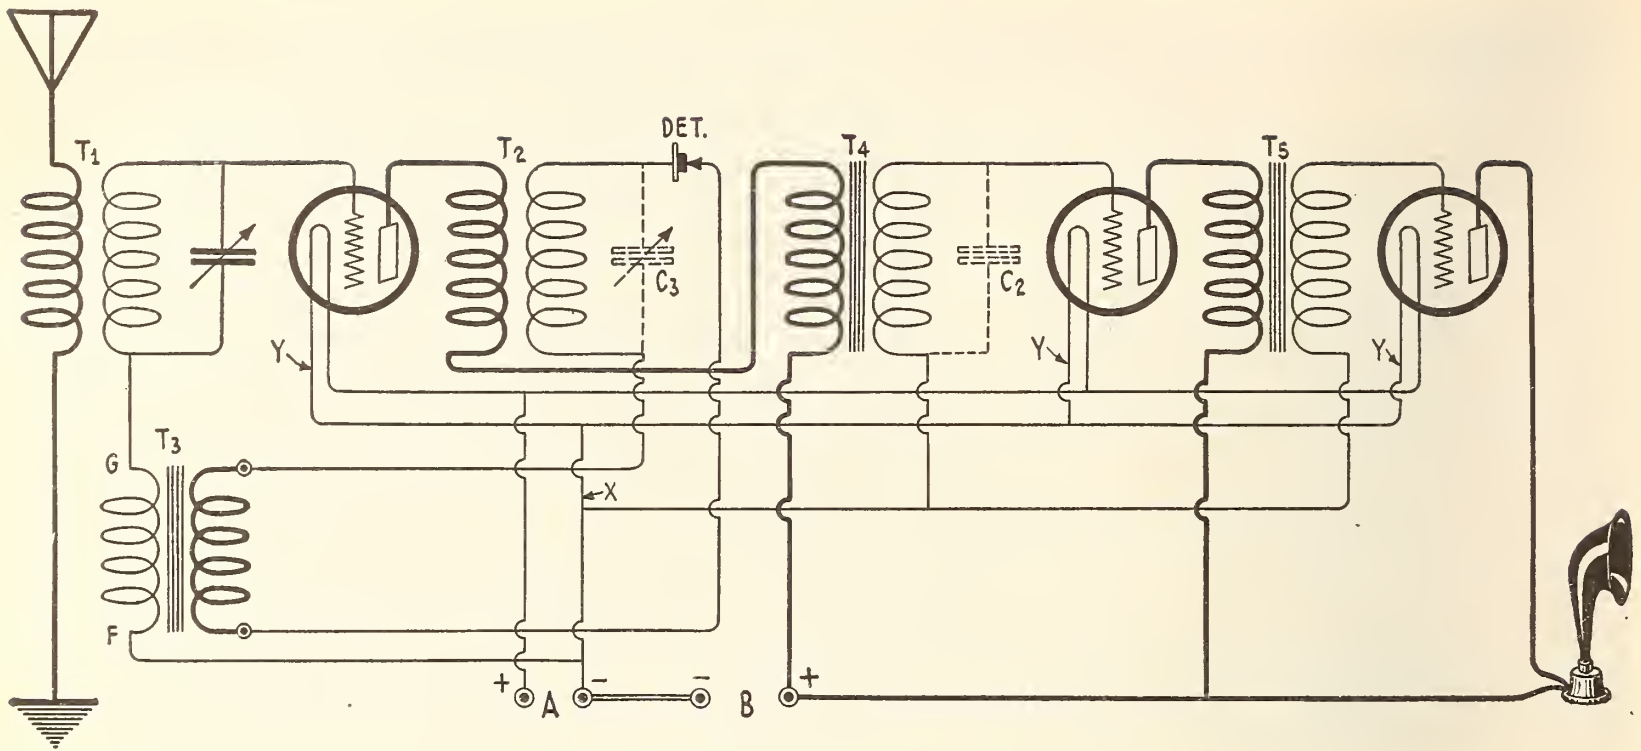
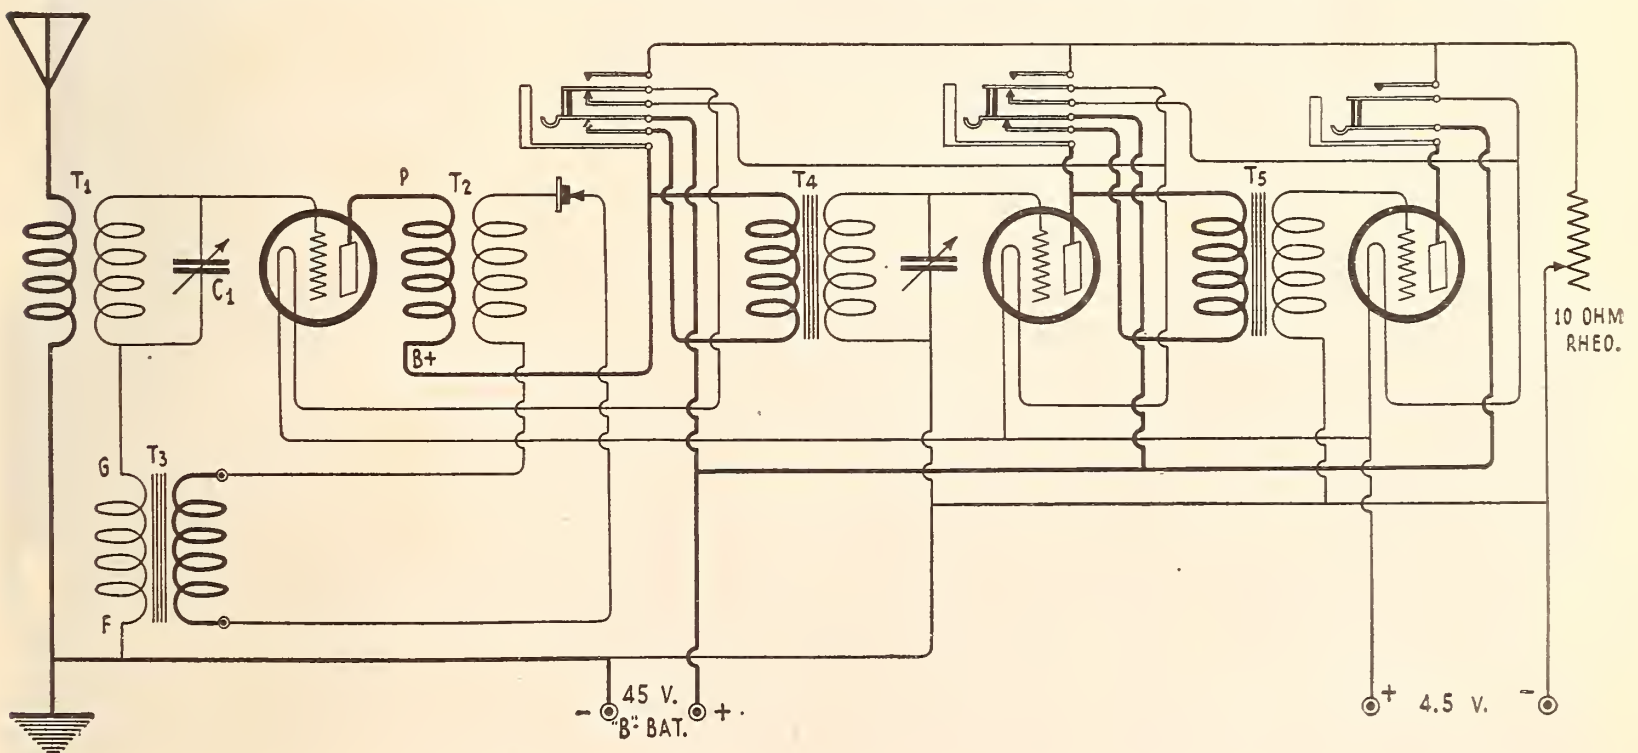

FIG. 1
FIG. 2
**WE** HAVE drawn up for the benefit of our readers, two circuits, the fundamental circuit, Fig. 1, and the specific circuit, Fig. 2. The fundamental circuit, which we shall first consider, is the basis on which the majority of enthusiasts, who are unable to obtain the exact instruments used by RADIO BROADCAST in building the set, must work.